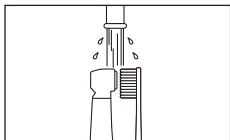

Fig. 12
- 1) Clean the external surfaces of the handpiece with a soft bristled toothbrush for 15 seconds or more. (Fig. 12)